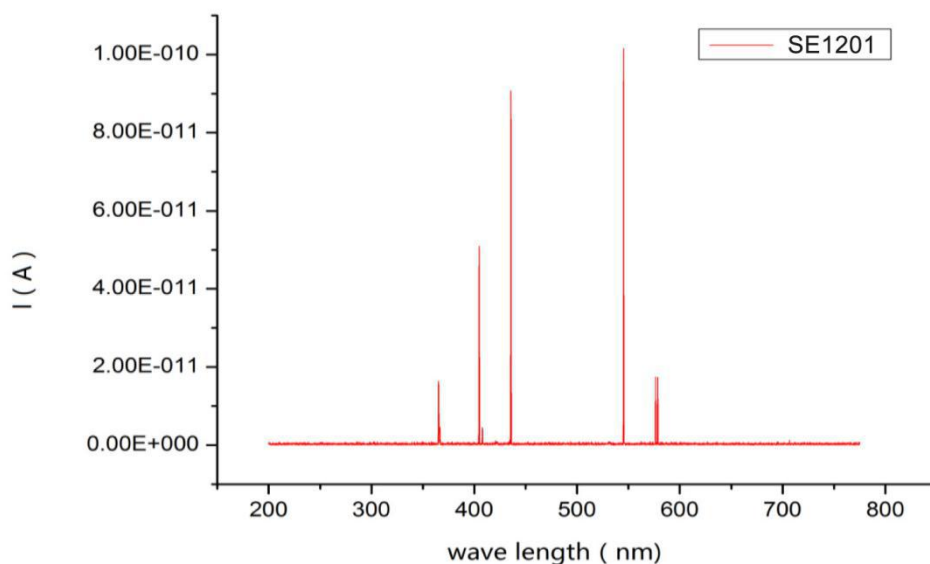

Fig.70 Spectrum Curve measured by SE1201
4. Start the spectral measurement and collect data from the data collection platform. Then, you will get an uncalibrated spectral curve as is shown in Fig.70.